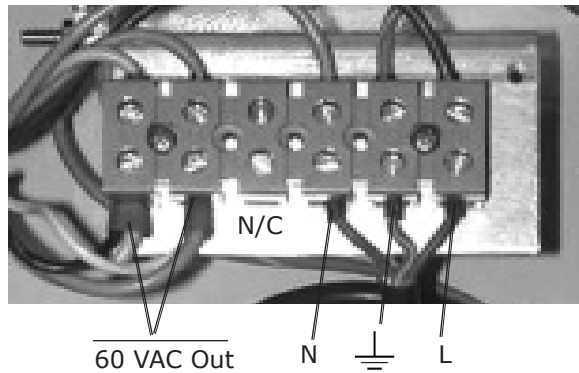

Fig. 3-7 Terminal Block Connections
6. Connect the electrical service to the terminal block located inside the unit, as shown in figure 3-7.